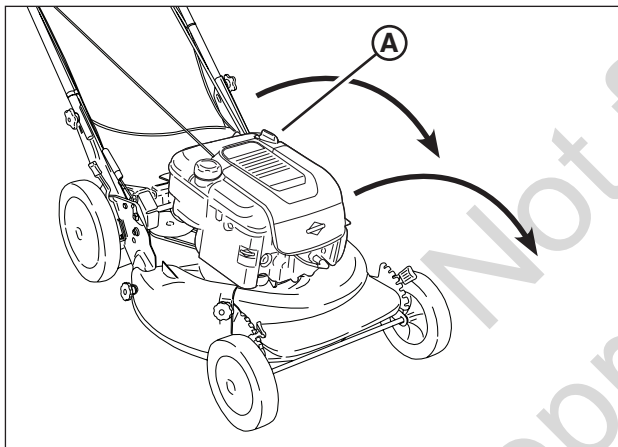

Figure 13: Draining the engine oil
2. Remove the dipstick (**A**, **Figure 13**), then turn the mower on its side. Allow the oil to drain from the oil fill tube into an appropriate container. Dispose of used oil properly.